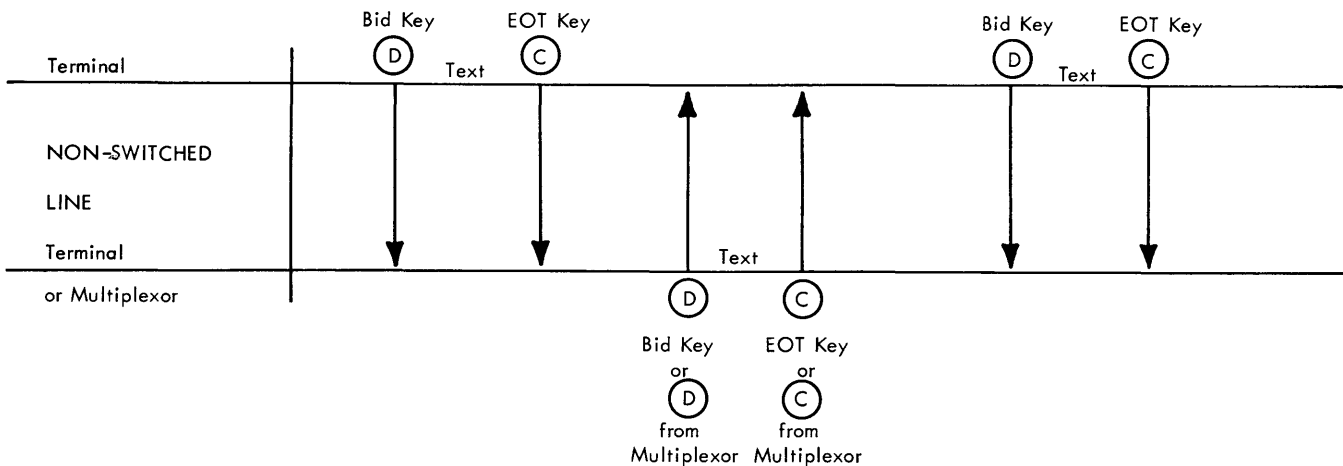

Figure 5. Point-to-Point Operation (No Special Features)
This section covers the operation of the basic IBM 2740 Communication Terminal Model 1, without any special features, and then with special features installed. The communication line operations required for each are shown in Figures 5 through 15. A detailed description of operating procedures is included in the IBM 2740/2741 Communication Terminal--Operators Guide, Form A27-3001.
This operation is performed on a contention basis, which means that both terminal operators independently attempt to acquire the line by pressing the Bid key (Figure 5). The first terminal acquiring the line retains control of this line until its EOT key is pressed. (Refer to Transmission Controls and Indicators, Model 1 in this section of manual, for a complete explanation of these keys.) When a terminal acquires the line, the other terminal automatically switches to a receive status and its keyboard is locked. This terminal remains in the receive status until an EOT code is received.
- Press the Bid key. This transmits a  $\textcircled{D}$  signal to the other terminal on the line (Figures 5 and 6). Upon receipt of the  $\textcircled{D}$  signal, the receiving terminal automatically switches to receive status provided the terminal was originally in standby status. This change to receive status causes the keyboard to remain locked and the terminal motor to be turned on. If this terminal is operating in local mode or is not in standby status when the  $\textcircled{D}$  signal is received, an audible alarm is automatically sounded at the terminal.
- Receipt of the  $\textcircled{D}$  signal switches this terminal to receive status (Receive light on, keyboard locked, and motor turned on). The terminal remains in this status until an EOT signal is received (see Figures 5 and 6). However, if this terminal runs out of paper while receiving, or drops status for any other reason, it switches to a no status condition (all status lights off, keyboard locked, and still in communicate mode). Until this condition is corrected (by inserting paper or deactivating the paper presence contact) and the line connection is re-established, the terminal is unable to receive any further transmissions. Thus, a procedural requirement providing for message retransmission when this occurs should be established for each system.
Press the Bid key. This transmits a (D) signal to the multiplexer (Figures 5 and 6). This signal causes the multiplexer to automatically switch to a receive status. Once the terminal acquires the line through use of the Bid key, it automatically switches to a transmit status. In conjunction with this, the transmit light is turned on, the keyboard is unlocked to permit the transmission of text, and the terminal motor is turned on. The terminal can now transmit a message (or messages) of any length and retain control of the line until it transmits an EOT (C) signal. Press the EOT key. This transmits a (C) signal to the multiplexer and places the terminal in a standby status. The Standby light at the terminal is turned on, the keyboard is locked (except for the Bid key and EOT key), and the motor is turned off.
The multiplexer initiates a transmission by placing a (D) signal on the communication line, which causes the terminal to switch from a standby status to a receive status (Figures 5 and 6). The Standby light turns off, the Receive light turns on, the keyboard is locked, and the terminal motor is turned on.
Press Data button on terminal data set and place receiver in cradle. The Dial-Connect light will be on indicating the line is connected and the terminal is in a standby status. From this point on, the operation of the terminal is the same as a terminal-to-multiplexer operation without the dial-up feature (see "Point-to-Point Operation--Multiplexer and Terminal" in this section of manual and Figures 5 and 6). While the terminal is in a receive or transmit status the Dial-Connect light is off, even though the line is still connected. The light turns on again when the terminal switches to a standby status.